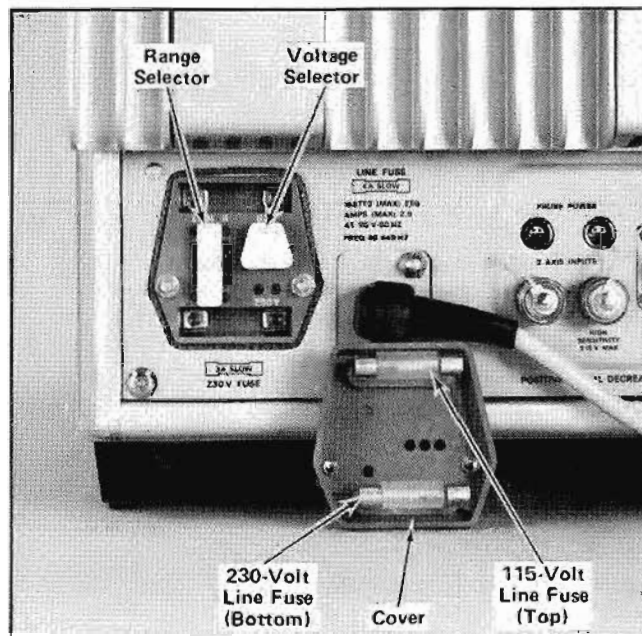

Fig. 2-1. Line Voltage Selector assembly on rear panel (shown with cover removed).
3. To convert from 115-volts to 230-volts nominal line voltage, or vice versa, pull out the Voltage Selector switch bar (see Fig. 2-1); turn it around 180° and plug it back into the remaining holes. Change the line-cord plug to match the power-source receptacle or use a 115-to 230-volt adapter.
4. To change regulating ranges, pull out the Range Selector switch bar (see Fig. 2-1); slide it to the desired position and plug it back in. Select a range which is centered about the average line voltage to which the instrument is to be connected (see Table 2-1).